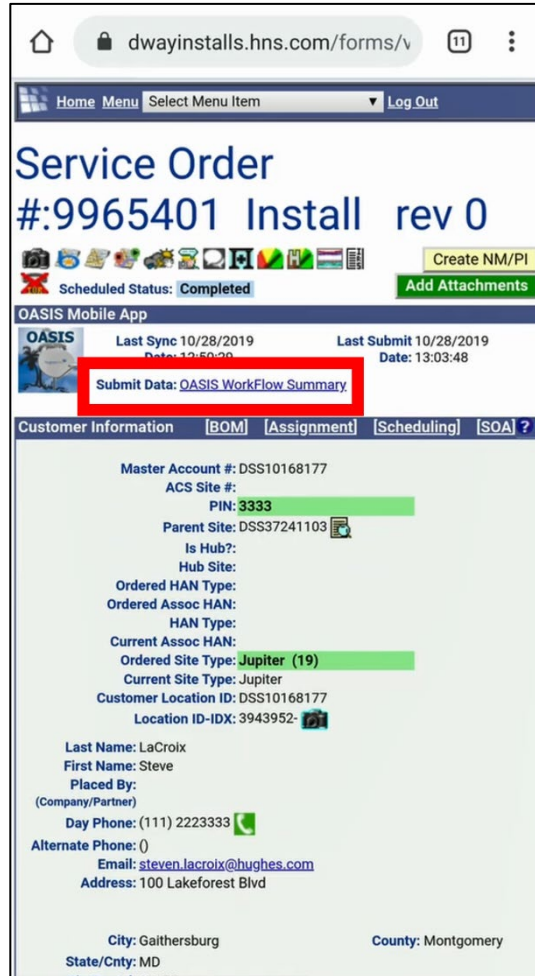

Figure 97: FSO page on the Installation Portal
3. On the page that launches, tap **OASIS WorkFlow Summary** (outlined in Figure 97).
5. Return to the FSO page (Figure 97 on page 93).